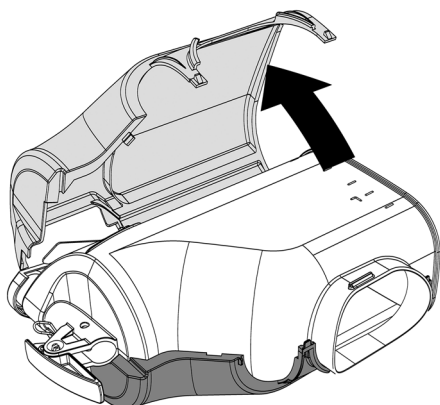
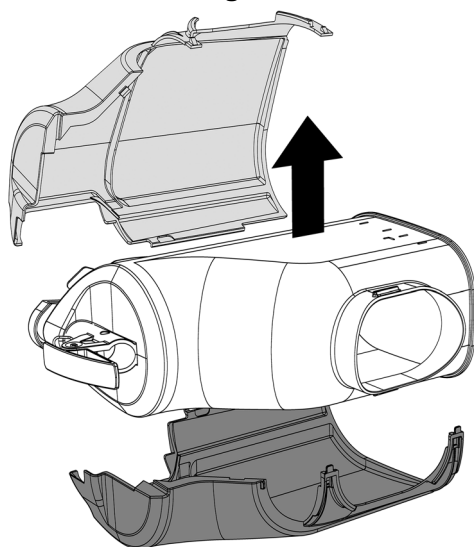

figure 17
figure 18
- 2** Remove the left-hand part and then the right-hand part of the recover. (see figure 17)(see figure 18).